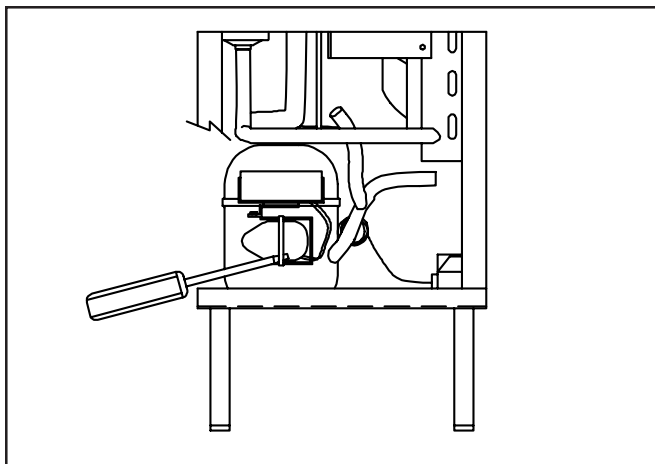

Figure 30. Removing Compressor Terminal Cover
2. Remove the compressor terminal cover by inserting a standard screwdriver under the terminal cover and retaining frame, pry out side then hold with your hand while prying the other side. (Figure 30)